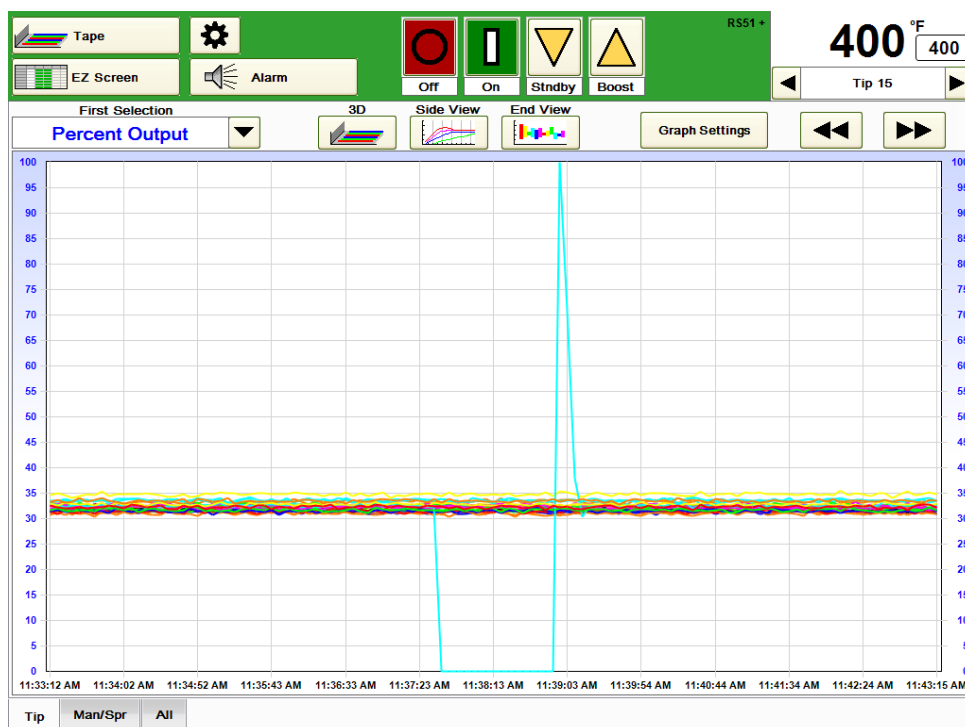

Figure 7j **Tape Graph – Side View**
- Side View – shown in Figure 7j